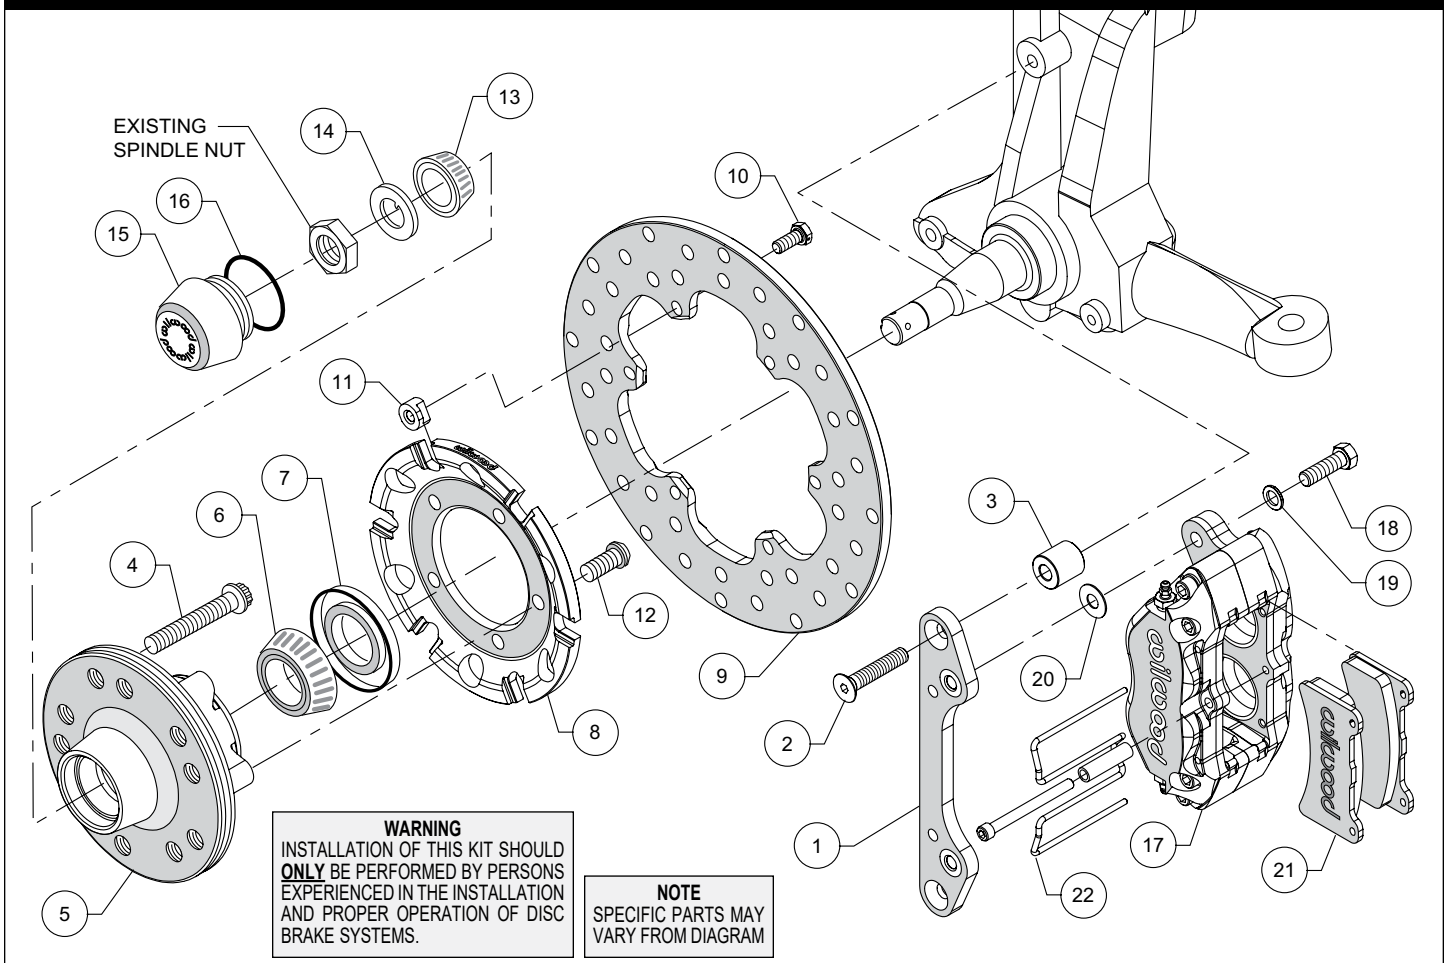
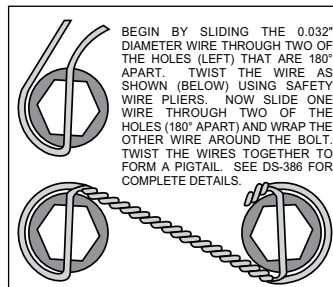
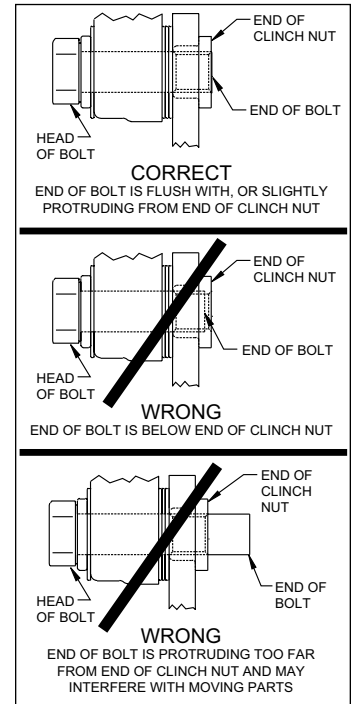

Figure 2. Typical Installation Configuration
Figure 4. Safety Wire Diagram
Figure 5. Clinch Nut Engagement Diagram
NOTE: Numbers in parenthesis refer to the parts list and Figure 2 on the preceding pages.
CAUTION: All mounting bolts must fully engage clinch nuts. Be sure to check that all bolts are either flush or protruding through flanged side of clinch nut after shimming, Figure 5.
- Orient the caliper mounting bracket (1) as shown in Figure 2 and Photo 1. Attach using bolts (2) and spacers (3), Figure 2. Temporarily tighten the mounting bolts. Ensure that the flanged heads of the clinch nuts in the bracket are facing outboard, Photo 1. **NOTE:** The bracket must fit squarely against the mounting points on the spindle. Inspect for interference from casting irregularities, machining ridges, burrs, etc. Remove bolts one at a time, apply red *Loctite*® 271 to threads and torque to 30 ft-lbs.
- Install wheel studs (4) into the hub (5), Photo 2. Torque to 77 ft-lb. **NOTE:** There are two five lug patterns in the hub (5 x 4.50 and 5 x 4.75). Ensure the correct hub stud pattern is being used to fit the wheel application.
- Pack the large inner bearing cone (6) with high temperature disc brake bearing grease (available from your local auto parts store) and install into the backside of the hub (5), Photo 3.
- Install the grease seal (7) by pressing into the backside of the hub (5), flush with the end of the hub, Photo 3.
- Orient the rotor (9) and the rotor adapter (8) as shown in Figure 2 and Photo 4. Attach the rotor to the adapter using bolts (10) and T-nuts (11). Apply red *Loctite*® 271 to the bolt threads and torque to 220 **in-lb** using a criss-cross pattern. Safety wire bolts using standard 0.032 inch diameter stainless steel safety wire as shown in Figure 4. Refer to Wilwood's data sheet DS-386 (available at www.wilwood.com/Pdf/DataSheets/ds386.pdf) for complete safety wire installation instructions.
- Mount the adapter/rotor assembly (8 and 9) to the hub (5) using bolts (12), as shown in Figure 2 and Photo 5. Using an alternating sequence, apply red *Loctite*® 271 to the threads, and torque to 45 ft-lb.
- Pack the small outer bearing cone (13) with high temperature disc brake bearing grease and install into hub (5). Slide the hub/ rotor assembly onto the spindle. Secure using spindle washer (14) and OEM spindle nut, Photo 6. Adjust bearings per OEM specifications. Install saved OEM nut lock (if any) and a new cotter pin (not included).
- Screw dust cap (15) into hub (5), Photo 7. Friction created by the o-ring (16) on the dust cap keeps it from unscrewing. **NOTE:** The O.D. of the existing OEM spindle washer may be larger than the I.D. of the dust cap not allowing it to seat against the hub face. Therefore, use the spindle washer (14) supplied with the kit instead of the OEM washer.
•**NOTE:** Please reference the caution statement at the beginning of the assembly instructions. Mount the caliper (17) onto the caliper mounting bracket (1) using bolts (18) and washers (19), as shown in Figure 2. Initially place one .035" thick shim (20) on each bolt between the caliper and the bracket, Photo 8. Temporarily tighten the mounting bolts and view the rotor (9) through the top opening of the caliper. The rotor should be centered in the caliper, Photo 9. If not, adjust by adding or subtracting shims (20) between the bracket and the caliper. Always use the same amount of shims on each of the two mounting bolts. **NOTE:** The end of each bolt must be flush with or slightly protruding from the head of the clinch nut, as shown in Figure 5. If necessary place spare shims (20) between washer (19) and caliper mounting ear to achieve the proper clinch nut engagement. Once the caliper alignment and clinch nut engagement are correct, remove the bolts one at a time, apply red *Loctite*® 271 to bolt threads, and torque to 40 ft-lb. For an added measure of security, the bolts may be safety wired using standard 0.032 inch diameter stainless steel safety wire as shown in Figure 4. Refer to Wilwood's data sheet DS-386 (available at www.wilwood.com/Pdf/DataSheets/ds386.pdf) for complete safety wire installation instructions.